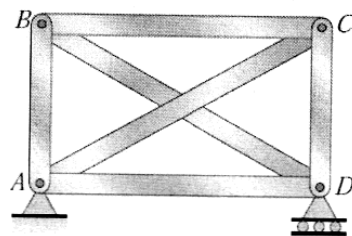

Figure 4
15. (a) (i) Differentiate between static loads and dynamics loads and give examples. (4)
(ii) Briefly discuss temperature effect on material behavior. When the entire structure shown in Figure 4 is subject to thermal heating, will there be induced stress — explain your answer. (9)